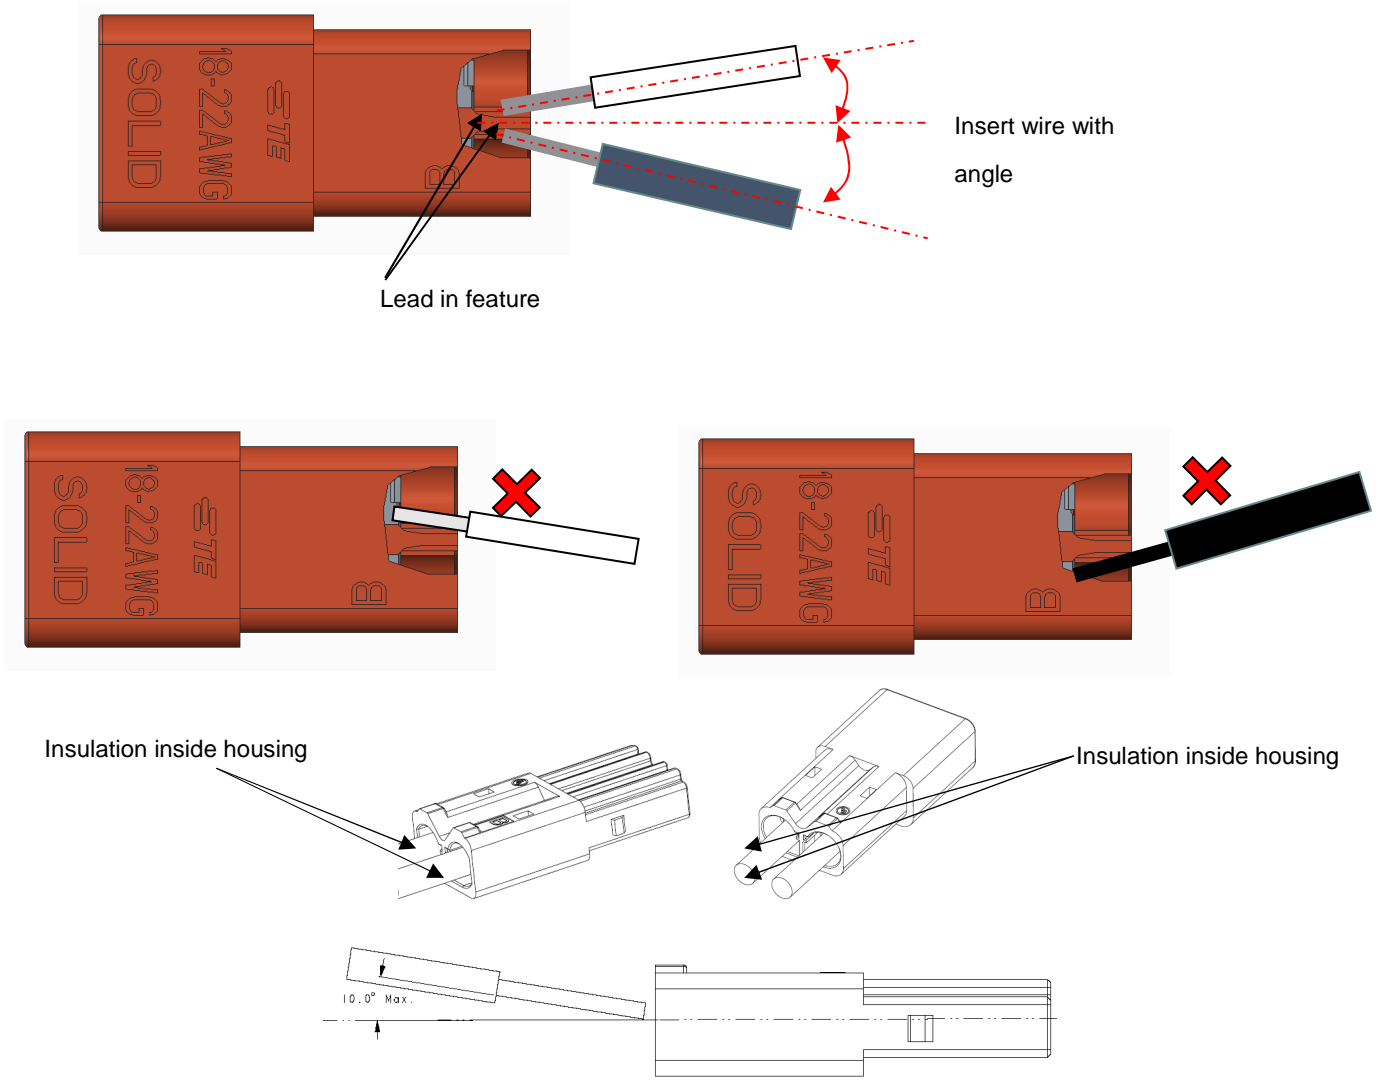

Figure 3
1. Insert each stripped wire into a poke-in slot in the back of the plug or receptacle until bottomed. During the insertion process, make the tip of wire touch on the lead in feature and insert the wire with an angle as shown on Figure 3. The maximum allowed insertion angle in vertical direction is 10° (Figure 3).